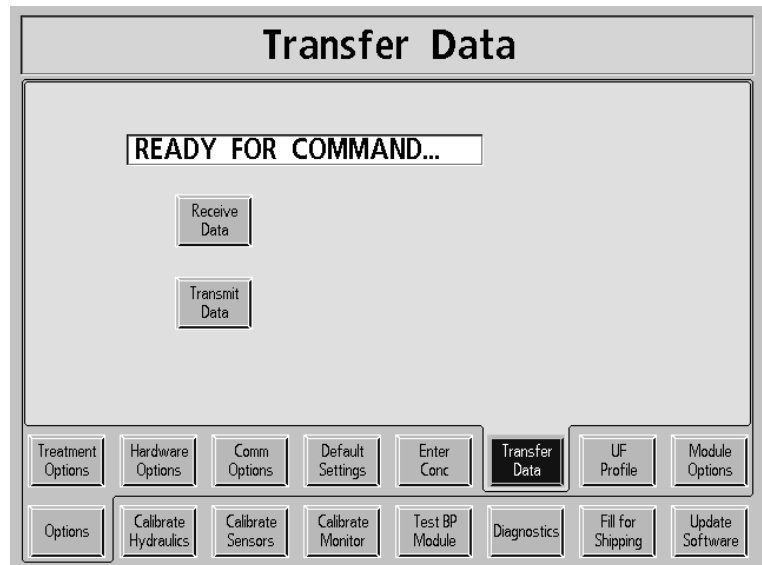

Figure 2
3. Select the **Options** screen-button then select the **Transfer Data** screen-button (see Figure 2).
2. Select the **Options** screen-button then select the **Transfer Data** screen-button (see Figure 2).